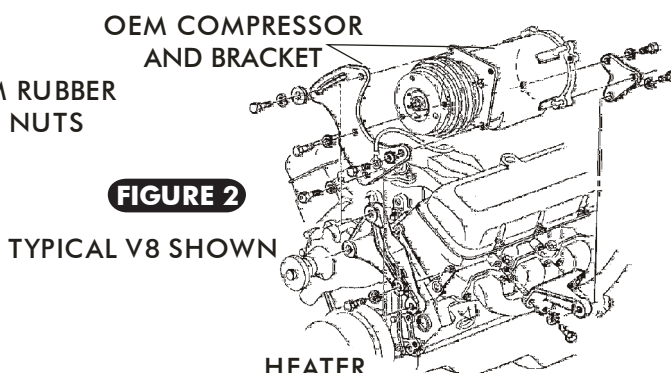

FIGURE 2
- ☐ OEM COMPRESSOR AND BRACKET (DISCARD), (SEE FIGURE 2, BELOW).